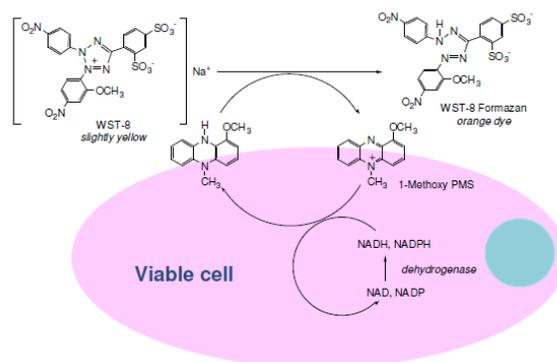

Fig. 8 Cell viability detection mechanism with CCK-8
**A:** WST-8 is reduced to an orange-colored formazan through electron mediator, 1-Methoxy PMS by NADH and NADPH activity which are generated by cellular activities as indicated in the Fig. 8. The amount of WST-8 formazan is dependent on the activity of cellular dehydrogenase, so WST-8/1-Methoxy PMS system can be used to determine the number of living cells and cell viability.